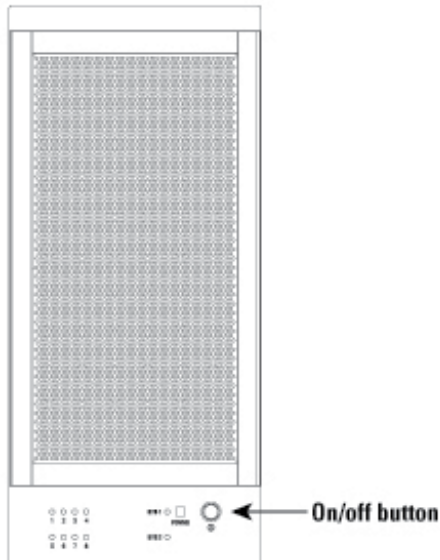

Fig. 16
5. Switch on the device and then release the setup button to complete the RAID mode configuration (fig. 16).